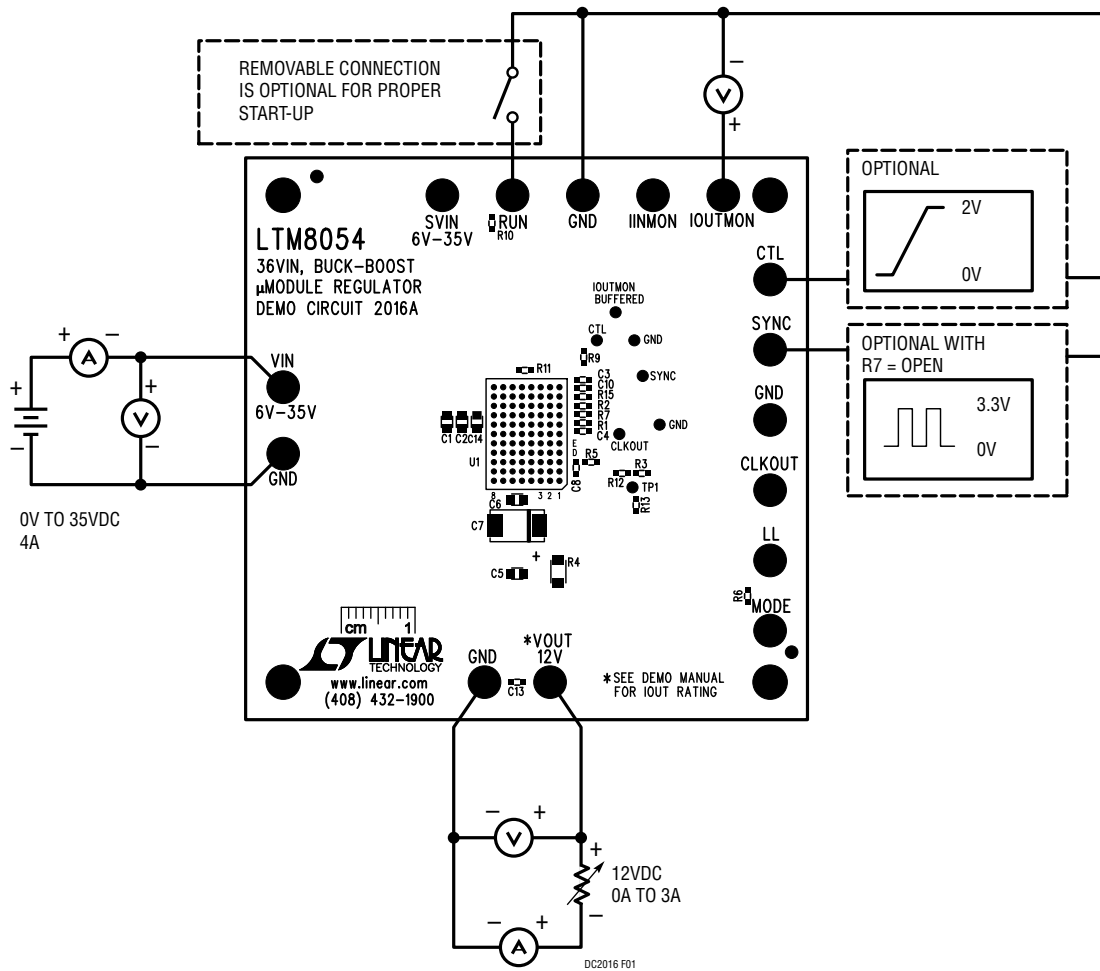
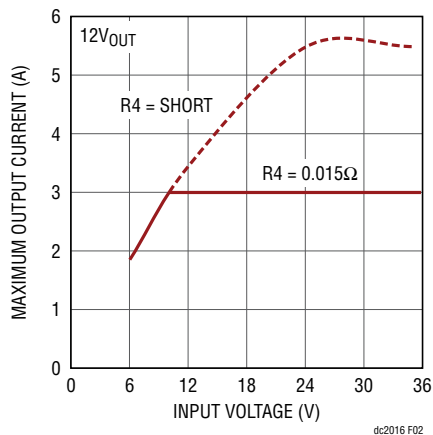

Figure 1. Proper Measurement Equipment Setup
Figure 2. Maximum Output Current vs Input Voltage for V_{OUT} = 12V
To use DC2016A to evaluate the performance of the LTM8054, refer to Figure 1 for the proper measurement equipment setup, Figure 2 for the maximum output current versus input voltage and then follow the procedure below:
1. Connect the RUN terminal to ground with a clip-on lead. Connect the power supply (with power off), load, and meters as shown in Figure 1.